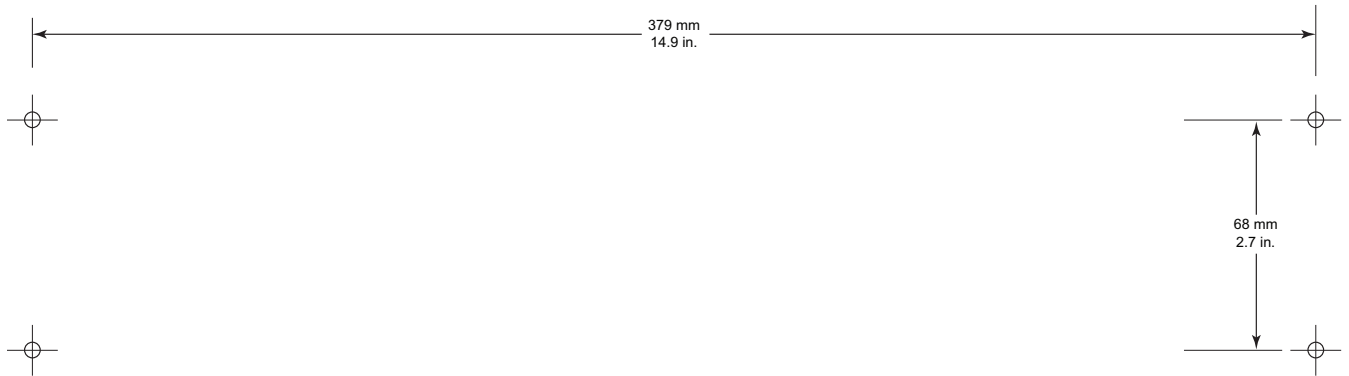

Figure 2-4 *Mounting Hole Dimensions*
2. If the template is not available, use the dimensions in Figure 2-4 on page 2-6.